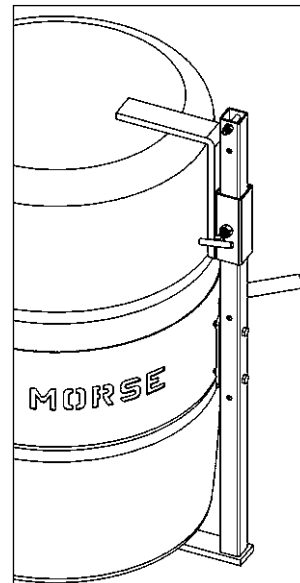

Figure 2.1
- The **Bracket Assembly** (Part # 4556-P) is **required** to handle a plastic drum without a top rim (see figure 2.1). It is also recommended to more securely handle a fiber drum. You can use the Bracket Assembly with a 55-gallon (210 liter) plastic, steel or fiber drum. The brace at top and bottom of the drum prevent it from slipping lengthways through the drum holder. It adjusts for a drum 31" to 39" tall.